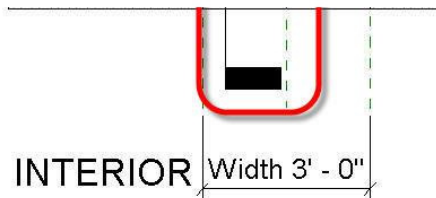

Figure 23. Create a Section view.
24. Use the Section tool on the View ribbon to create the Section shown in Figure 23. It is important to put the section in the location and orientations shown in the figure for a later step in this tutorial.